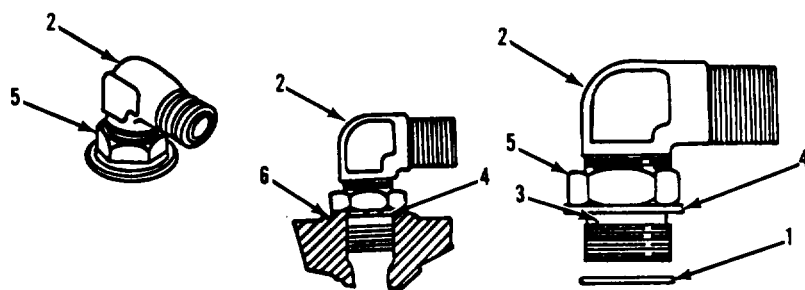

Figure 2-3.
(16) Screw on both tube nuts with your fingers to position tubing and clamps correctly before tightening tube nuts.
(17) Put anti-seizing tape MIL-T-27730 on pipe (tapered) threads. Do not put tape on first two threads.
(18) Operate the system being worked on and check the system for leaks at all connections that were loosened. If a connection leaks, unscrew a full turn, then tighten. If it is still leaking, replace leaking parts.
(19) Always look carefully at equipment for likely signs of trouble while doing routine work. If hydraulic oil is leaking down on harnesses and connectors, repair the leak at once. Tie down any harness that is free to move and rub against metal. If you look for possible trouble spots and make repairs at once, you can cut down on repair time and extra work.
(20) Installing adjustable fittings.
(a) Put a light coat of lubricant, same as lubricant in system being worked on, on packing (1, Figure 2-3). Slide packing (1) on fitting (2) so that packing (1) is seated in groove (3) against washer (4) as far as it will go.